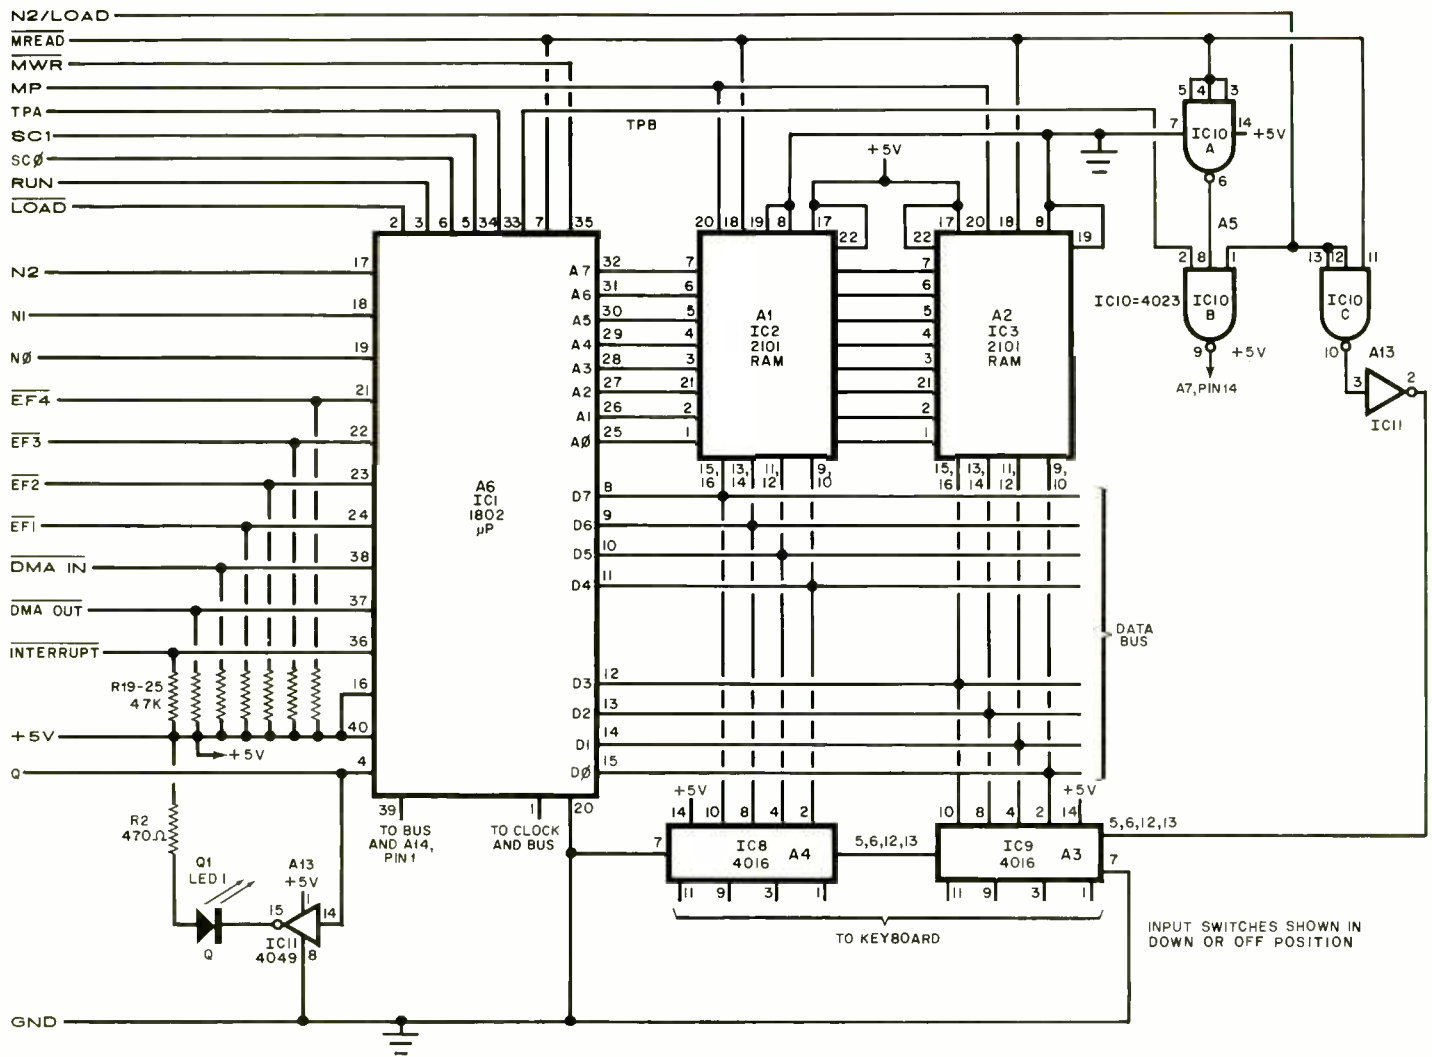

Fig. 1. The basic Elf circuit is modified as shown here. Note that the IC's are now A-prefixed, and the passive components are renumbered.
**The Basic Elf.** The basic computer circuit shown in Fig. 1, and the graphics interface shown in Fig. 2 are essentially the same as the original Elf's.
Whereas the original Elf used a pair of relatively expensive hexadecimal decoders/latch/readouts to monitor the data lines, Elf II uses a pair of conventional 7-segment LED displays to do the same thing. Besides the saving in cost, the only difference between the two approaches is that in the Elf-II method, lower-case 'b' and 'd' are used instead of capital letters. However, these cannot be mistaken for any other alphanumeric character. The new circuit is shown in Fig. 3. Integrated circuits A8 and A12 accept the digital information from the data bus—buffered by A7 and A11—and convert this data to drive the common-cathode 7-segment LED readouts forming *DIS1*. Besides the data information, this circuit also accepts the strobe signal coming from A5 of Fig. 1 (the original IC10, pin 9).